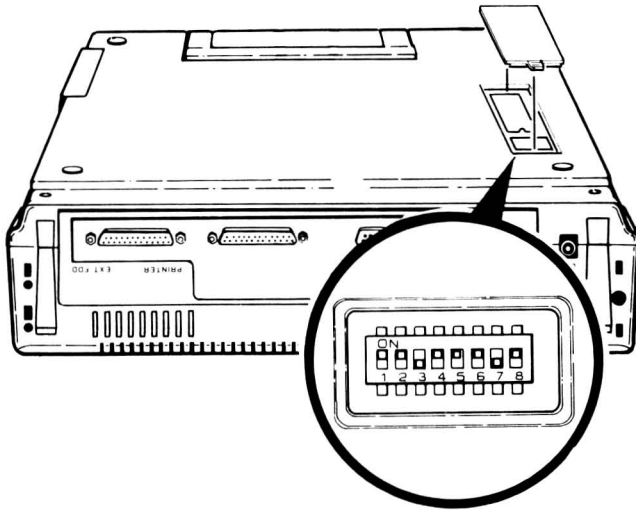

Figure 12-11. Bottom of the Computer
**Configuration Switch** — The configuration DIP switch is behind a removable access cover. Chapter 2 contains a description of this switch. Refer to Figure 12-11.